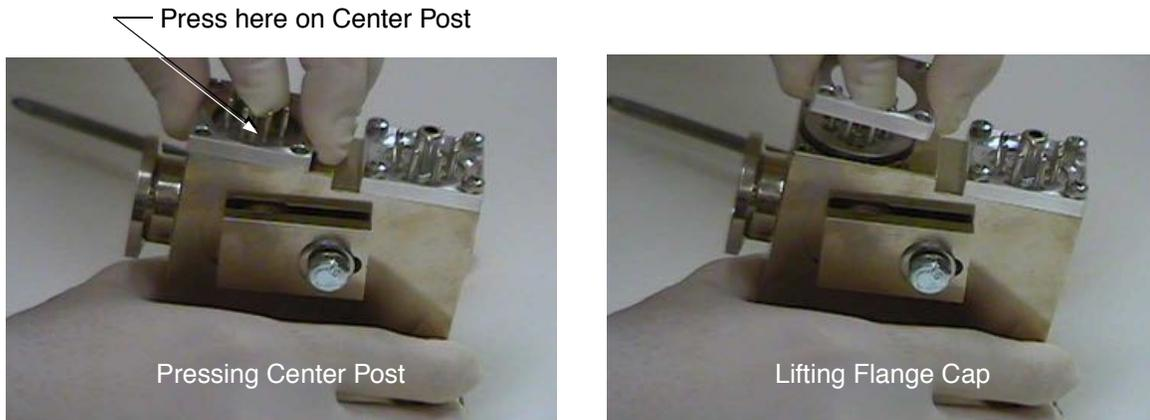

Figure 3-8 Disengaging Flange Cap
8. Remove the ion source flange cap by pressing down on the ion source center post and lifting the flange cap up and off the ion source as shown in the images of Figure 3-8.